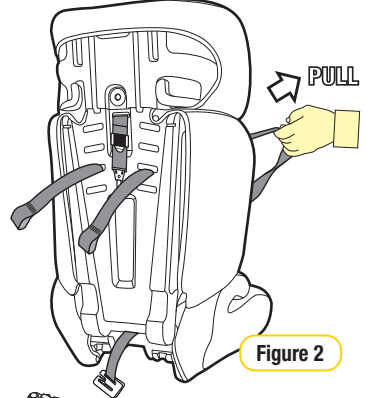

Figure 2
- Step 3:** Pull the shoulder harness straps through the shoulder slot holes in the seat body and cover. They are now loose in the front of the seat (refer Figure 2).